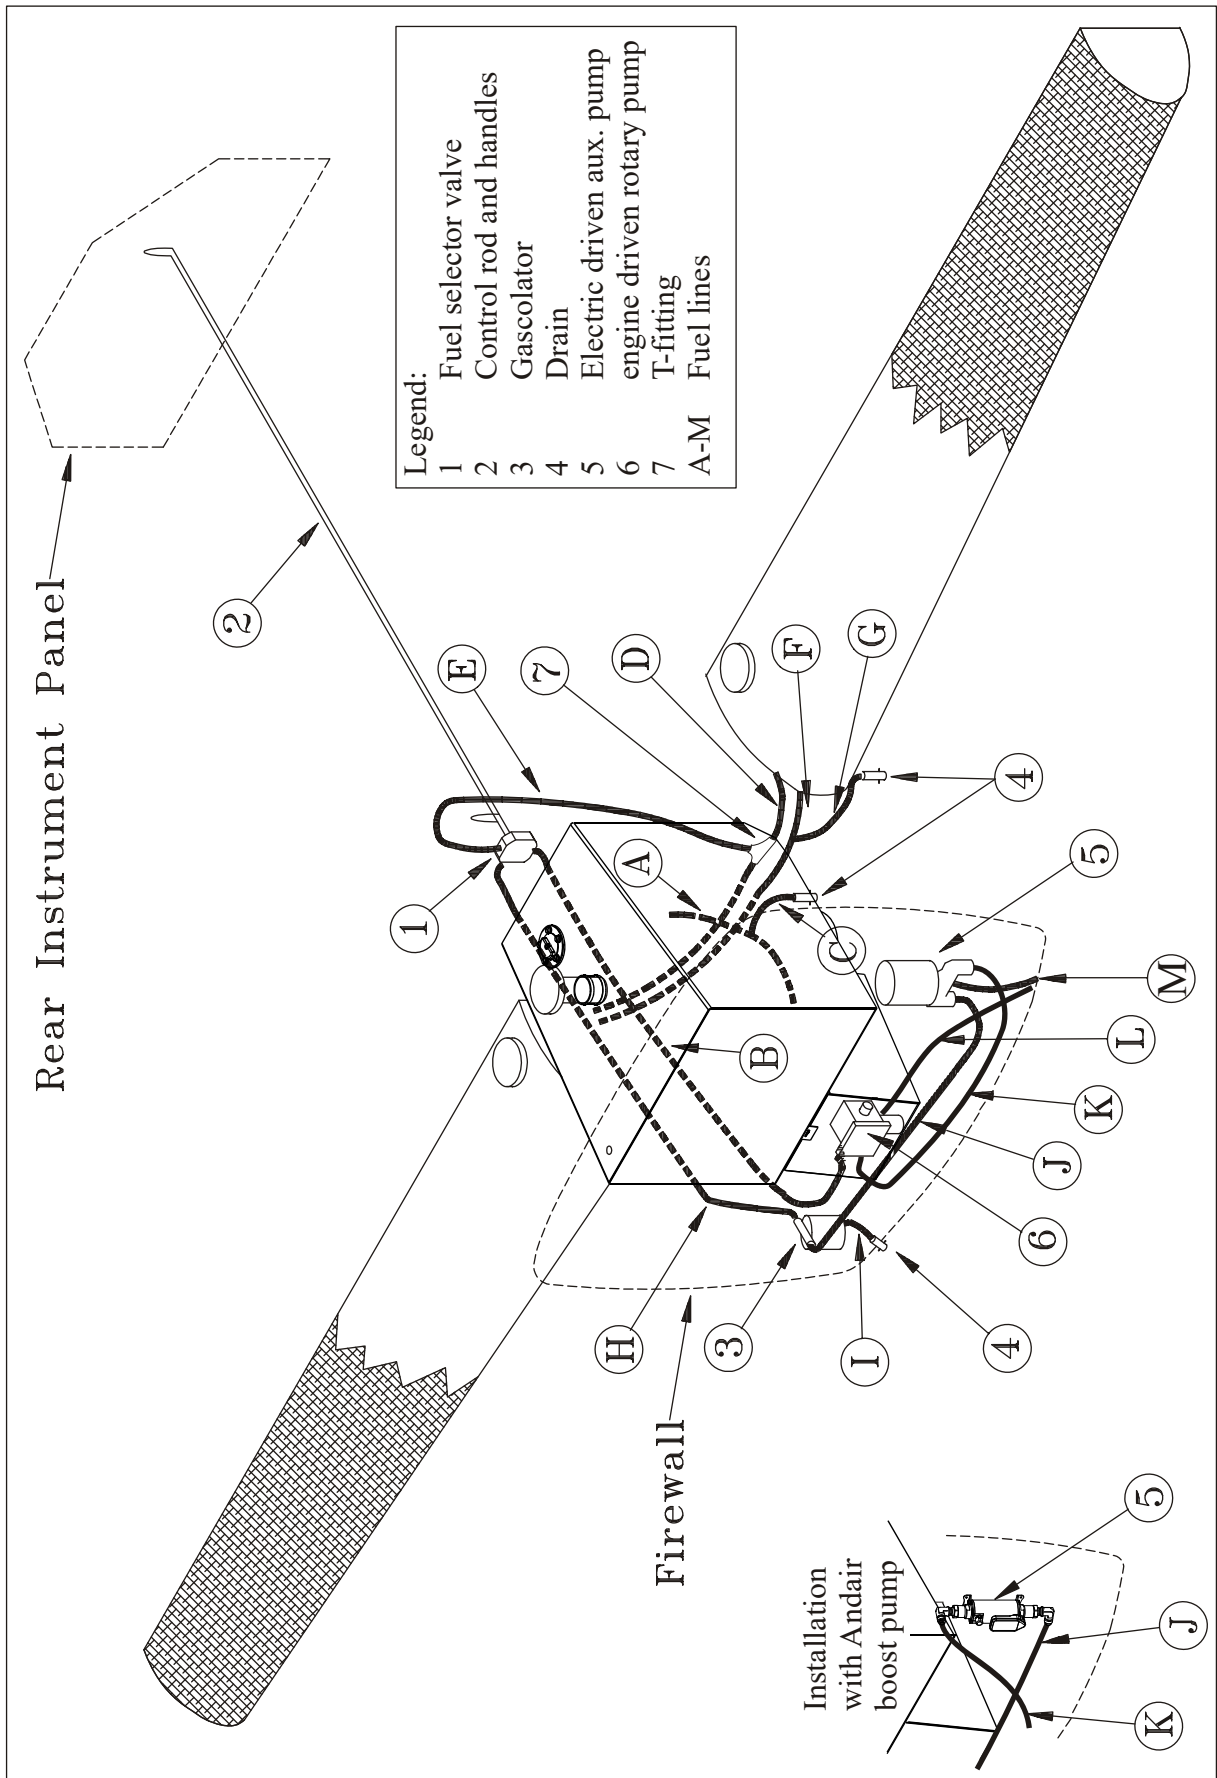

Figure 9
(Refer to Figure 9) Flexible hoses and aluminium tubes (A-L) connect the particular components of the fuel system. The fuel lines connecting the wing tanks (D) meet at a T-fitting (7) in the bottom center of the fuselage.